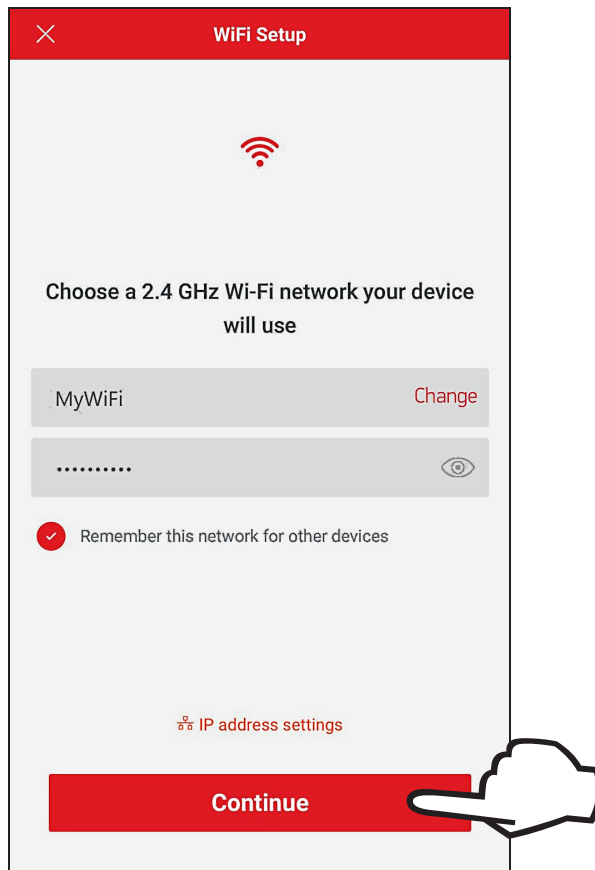

Figure 88. Wi-Fi Setup
1. The "Wi-Fi setup" screen will appear. Select or enter the Wi-Fi network you want your unit to be connected to and enter the network password. See **Figure 88**.